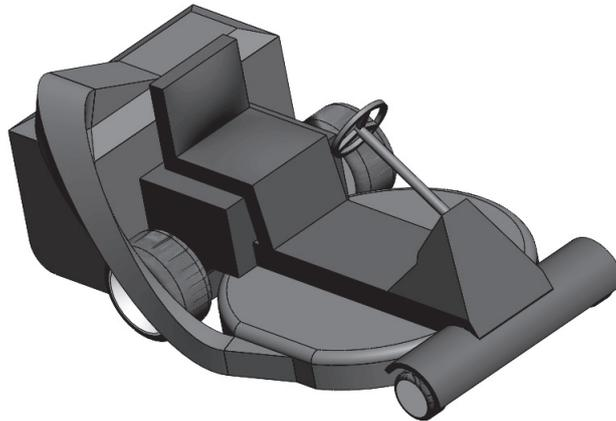

Fig. 3(a)
- 3 (a) **Fig. 3(a)** shows a prototype design for a ride on lawnmower. The lawnmower contains a range of mechanical systems including a gearbox, pulleys and bearings.